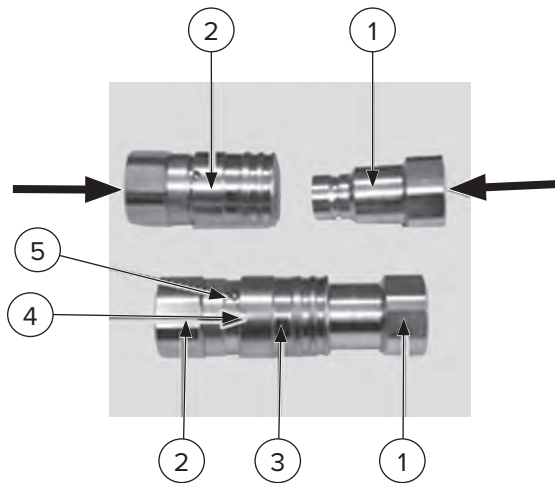

Figure 5
1. Push the male section [Figure 5, Item 1] into the female section [Item 2] until it clicks into place in the ring nut [Item 3].
**NOTE:** Figure 5 shows flat-faced quick couplings with a snap-fastening safety ring nut.
4. To disconnect the hoses with the flat-faced quick couplings: turn the ring nut [Figure 5, Item 3], so that the notch [Item 4] lines up with the spherule [Item 5], push the ring nut [Item 3] towards the spherule [Item 5] to disconnect the quick coupling.